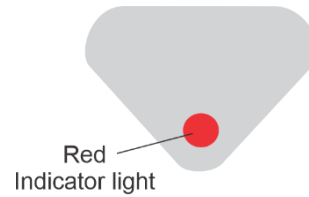

Fig. 1.44: Sensor assembly activation list
- Activate the sensor and check for a red activation light. (Refer Fig. 1.44)